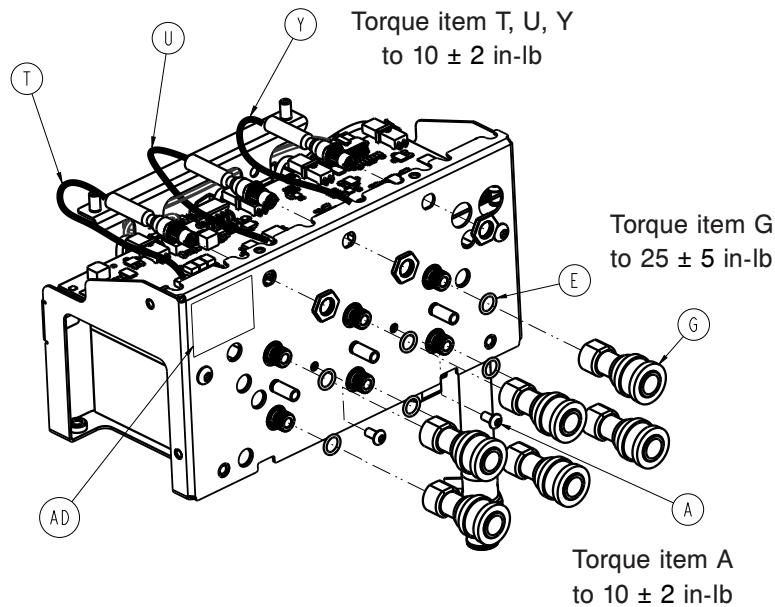

Figure 46 – Hose connectors
16. Using a 7/16" socket, loosen the two nuts (D) that secure the MCB bracket to the control assembly bracket.
19. Using a crescent wrench, remove the six hose connectors (G) and O-rings (E) (Figure 46). Save the hose connectors.